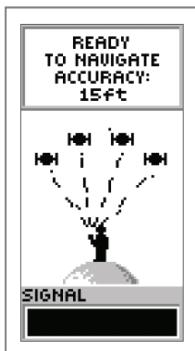

Figure 1
- Wait, until the satellites are found and the navigation readiness is established (figure 1).